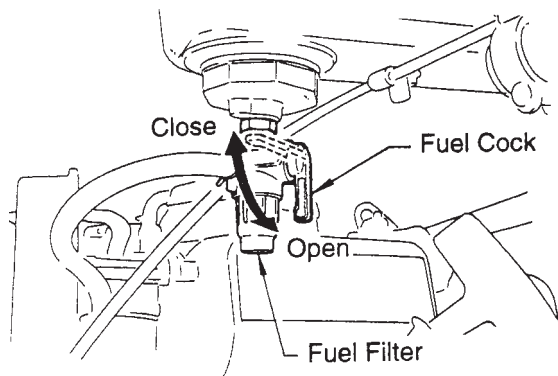

Figure 7. Fuel Cock
1. Open the fuel shut-off valve by moving the **fuel cock** lever to the **open** position (Figure 7).